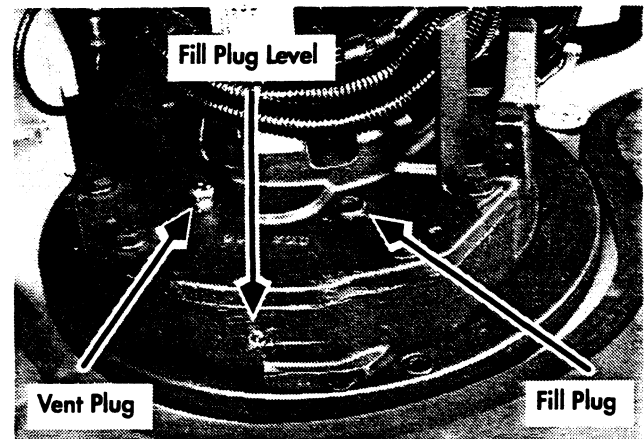

Figure 6-59: Drive Unit Fill Plug and Vent Plug
Make sure the drive unit vent plug is clean and open to keep pressure from building up in the housing. ~~Extra~~ pressure could force lubricant out of the shaft seals. See Figure 6-59.
1. Remove the vent plug from the top cover of the drive housing. See Figure 6-59.